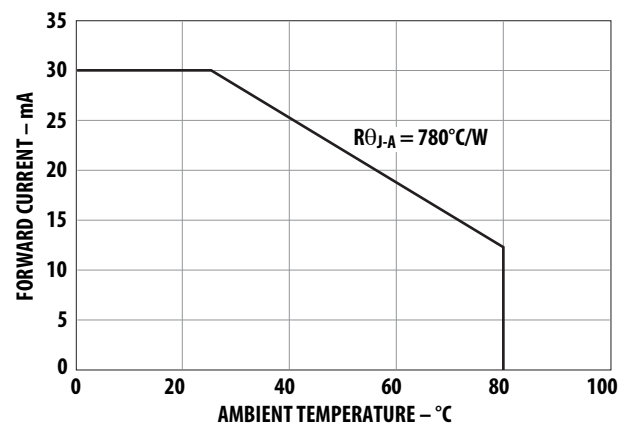

Figure 4. Maximum forward current vs. ambient temperature based on  $T_{jmax} = 115^{\circ}C$
1. Derate linearly as shown in Figure 4.